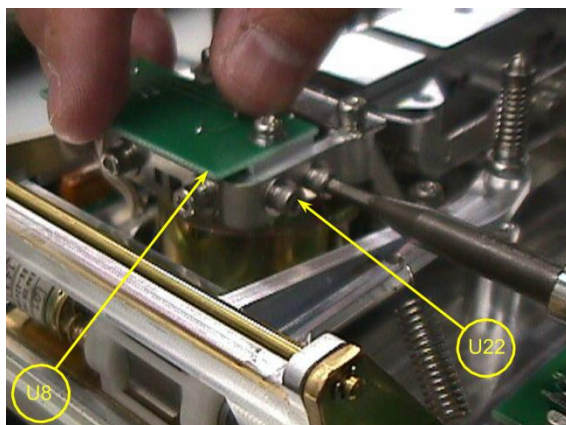

Fig.26
- Detach the Assy,Case (3) / Assy,Pan support (4) in accordance with “3. Inspection of the Balance Interior”.
- Slightly loosen the two P3 M3x10 hexagonal socket-head bolts (U22) fixing the Assy,Detector (U8). Gently raise/ lower the lever of the Assy,Lever (U4) until it touches the Lever stopper (U12), and adjust the Assy,Detector (U8) to a height where the voltmeter display inverts (+) (-).(Fig.26).